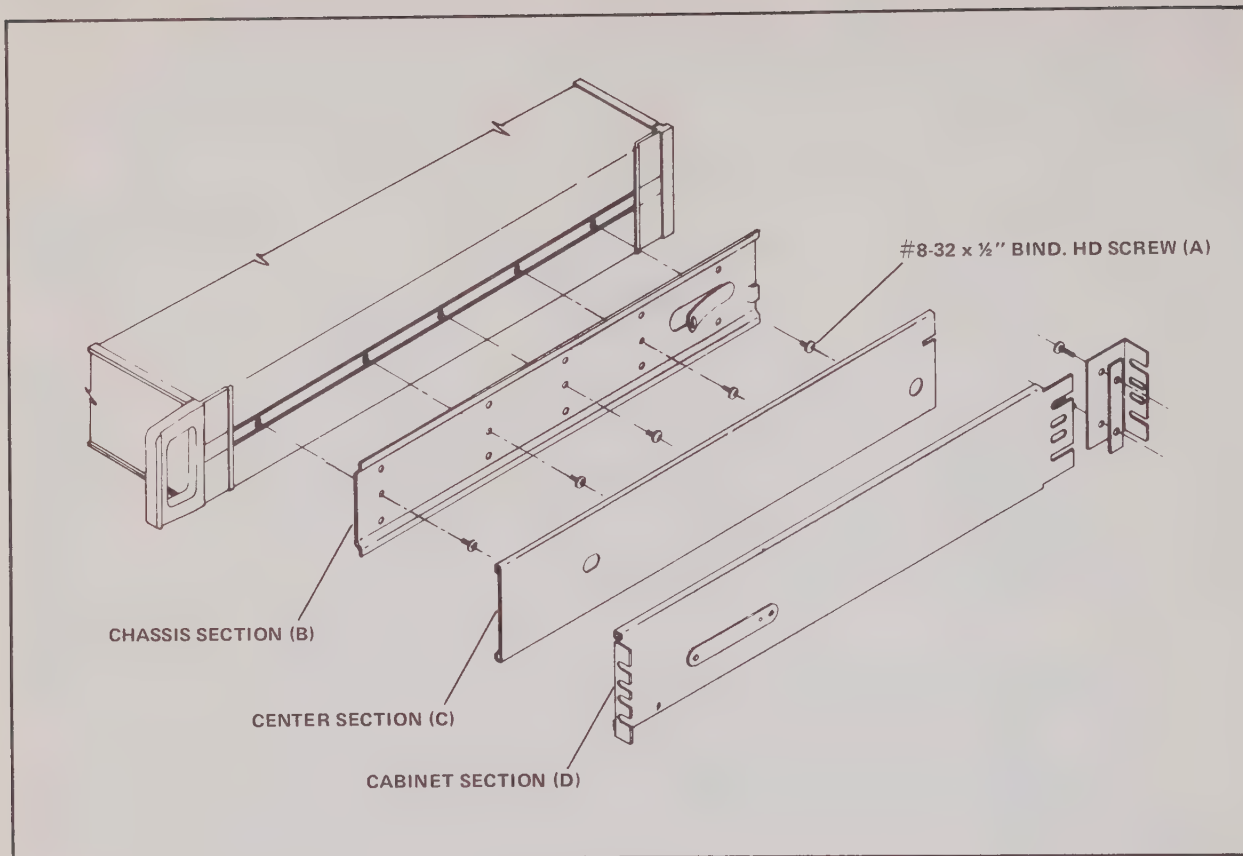

Figure 600-2. Rack Slide Kit
- b. Refer to Figure 600-2, and, using the screws supplied with the kit, attach the Chassis Section (B) of the slide kit to each side of the unit. Use the center row of mounting holes.
- c. Install the cabinet Section (D) and the Center Section (C) in the equipment rack.
- e. Depress the spring locks on the Chassis Section (B) and join section B and C.